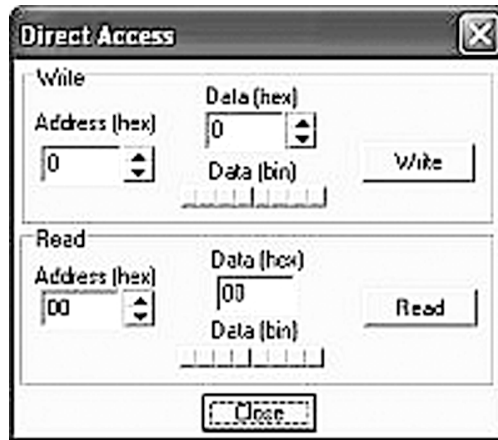

Figure 8. Register Polling Interval
- Register polling: a polling time can be set in the dialog shown in Figure 8. When the polling time is not zero, 'read all' is performed once every 'polling time'; when the bar is set at 'polling is not available', auto-polling is stopped.